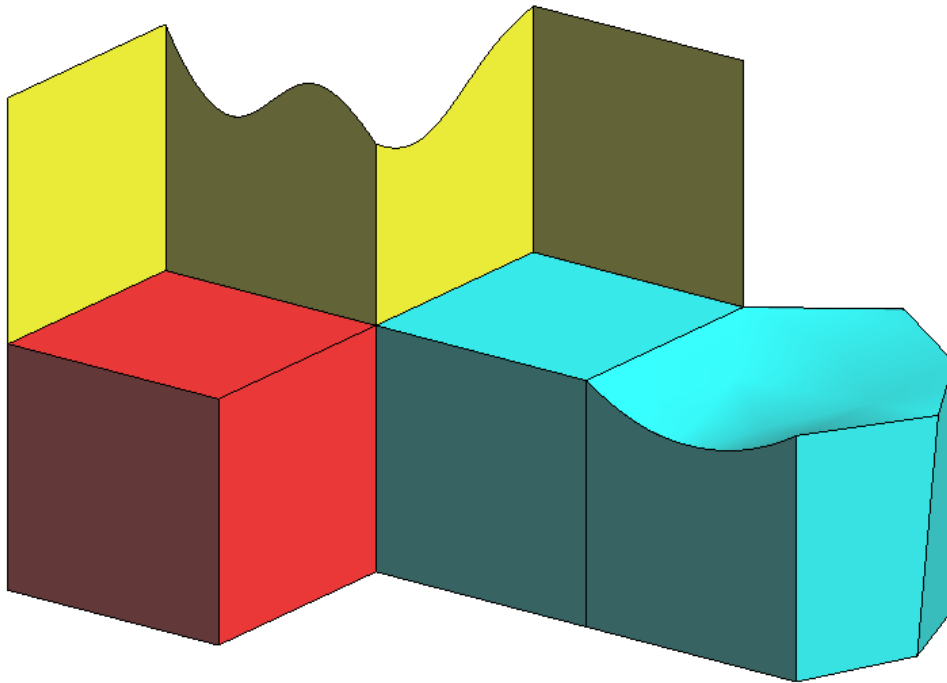

Figure 1. Contents of the project "ToMesh3.gid"
- 2 . The geometry appears on the screen. It is a set of surfaces and three volumes. Select **Render->Flat** from the mouse menu¹ or from the **View** menu. In Figure 1 shows the geometrical model loaded.